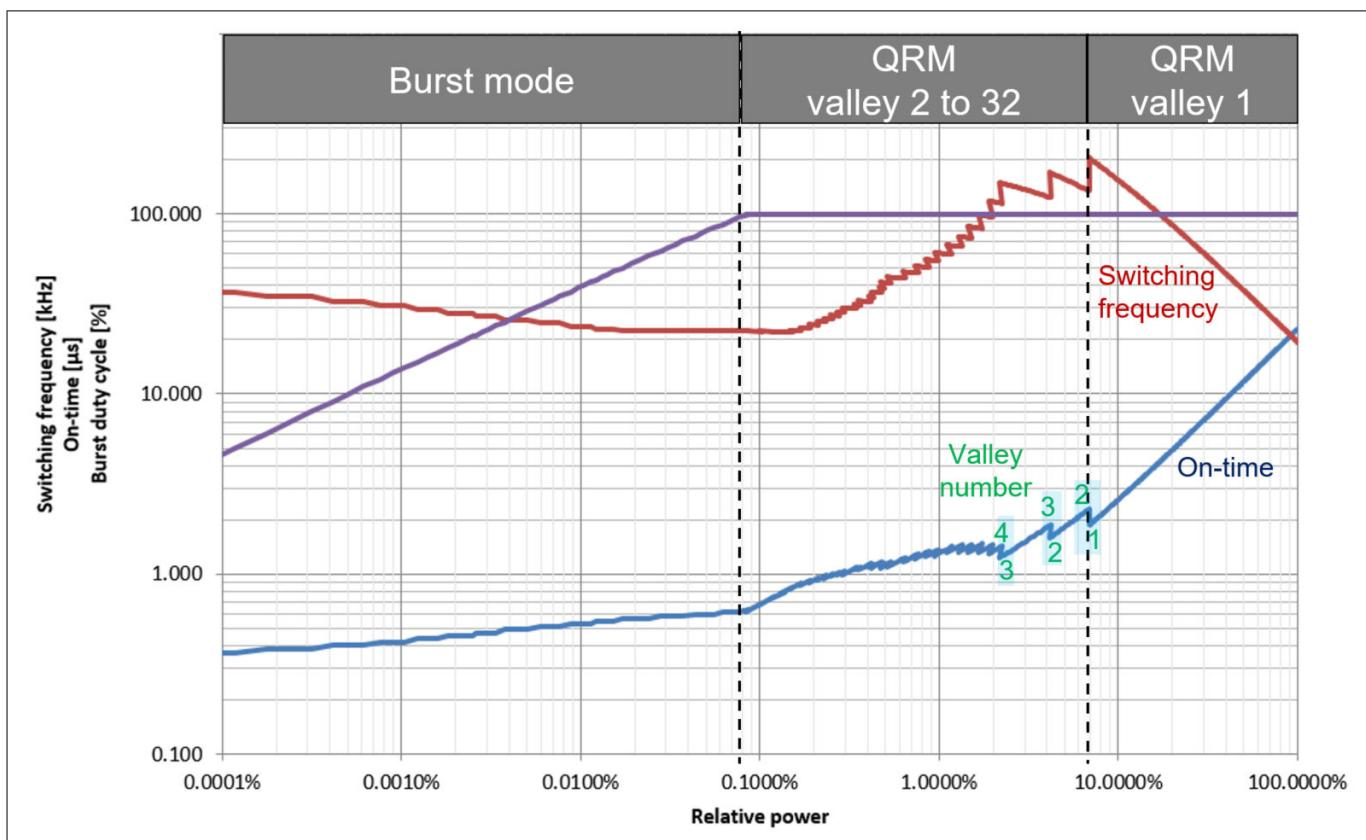

Figure 10 Exemplary switching characteristics versus relative power, with on-time compensation for valley changing
Figure 10 areas highlighted in blue show the on-time compensation effect (in zig-zag pattern) when, for example, the QRM valley number is increased from 1 to 2, from 2 to 3, and from 3 to 4. When the relative power is further decreased, the on-time compensation continues at higher valley changing position (in smaller zig-zag), until it reaches the maximum valley number of 32. To ensure the QRM switching frequency reduction stays above the audible range, the QRM off-time is limited to a maximum value of t_{Off} (47 μs typ.).
- the system-dependent on-time compensation effect for valley number change (see Figure 10)